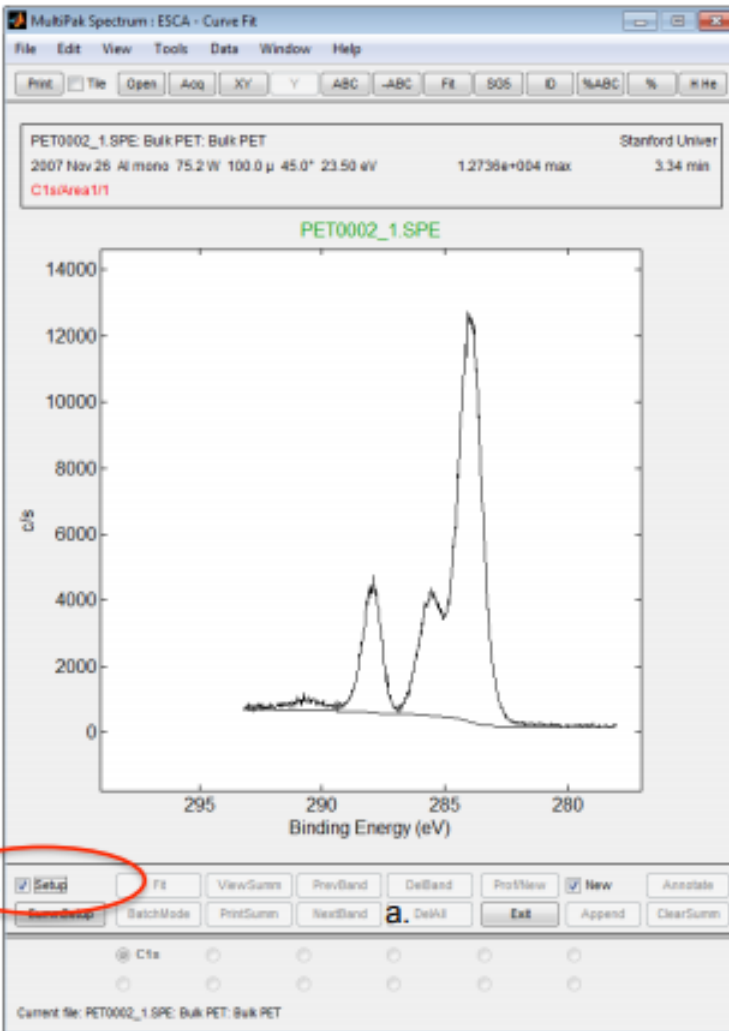

FIG 12. The FIT module after DelAll.
- a. See **FIG 12**. Click the **DelAll** button in the bottom of the Spectrum window to clear the fit.